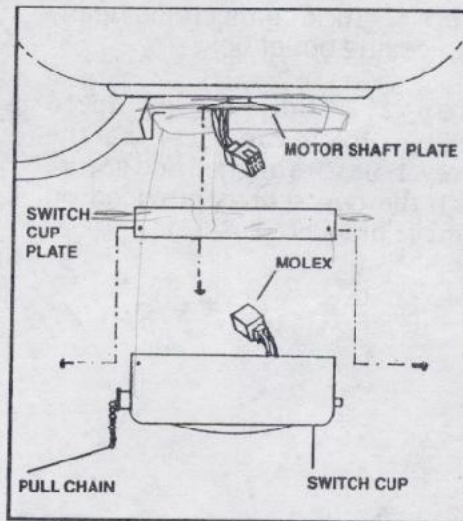

FIG. 16
Step 1. Remove the screws from the motor shaft plate, place the switch cup plate over the motor shaft plate and align the holes. Secure in place with screws previously removed. (Fig. 16)
Step 2. Remove the screws from the switch cup plate. While holding the switch cup, firmly snap the wire molexes together. Next, slide switch cup up against plate and rotate it until the screw holes are aligned. Secure switch cup to plate using the screws removed earlier. (Fig. 16)
Step 3. Attach the pull chain fob to the chain on the switch cup. (Fig. 16)